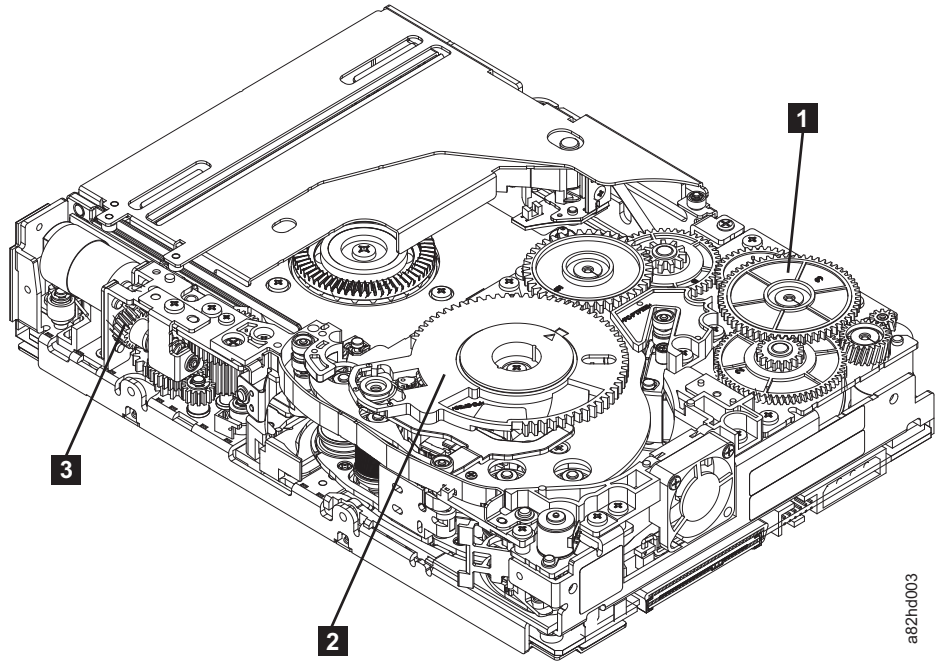

Figure 42. Drive with cover removed to reveal gear train.
4. Locate the threader intermediate gear (**1** in Figure 42 on page 103) near the rear of the drive. You can use your finger to rotate the threader intermediate gear (**1** in Figure 42 on page 103) and slowly rotate the threader mechanism gear (**2** in Figure 42 on page 103) clockwise.
- As the leader pin is secured in the cartridge, you hear the leader pin retention spring clips click into place. If you do not hear the click, continue rolling until the threader intermediate gear (**1** in Figure 42) stops. The LBA is in the correct position.